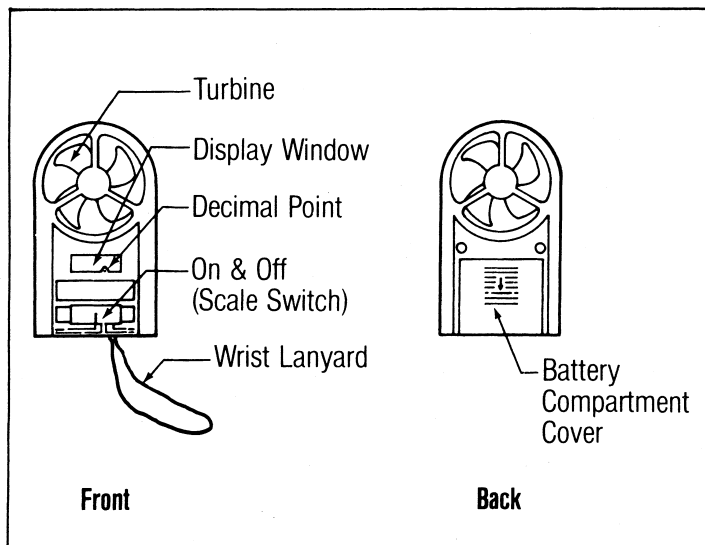

Figure 1
2. Move the slide switch to the desired scale. Refer to Fig. 1. It will take about 4 seconds before the correct wind speed is shown in the display window. If there is not enough wind to make the turbine rotate, the display will read either 000 or 001.